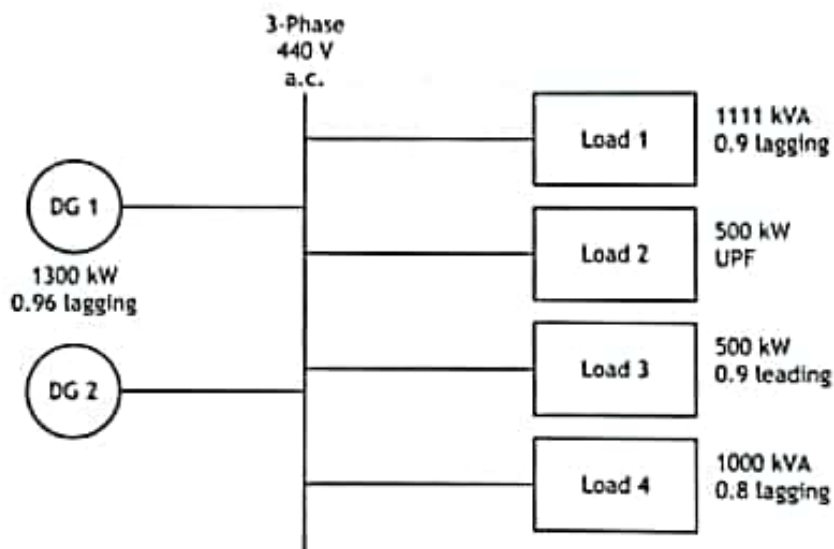

Fig Q5
- (a) the rotor winding loss; (8)
- (b) the stator core loss; (6)
- (c) the efficiency. (2)
5. Fig Q5 shows a one-line diagram of a ship's electrical power system: